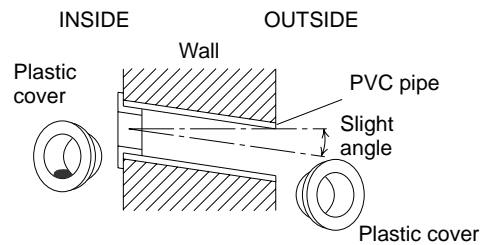

Fig. 10
- (6) Place the plastic cover over the end of the pipe (for indoor side only) and insert the pipe in the wall. (Fig. 10)